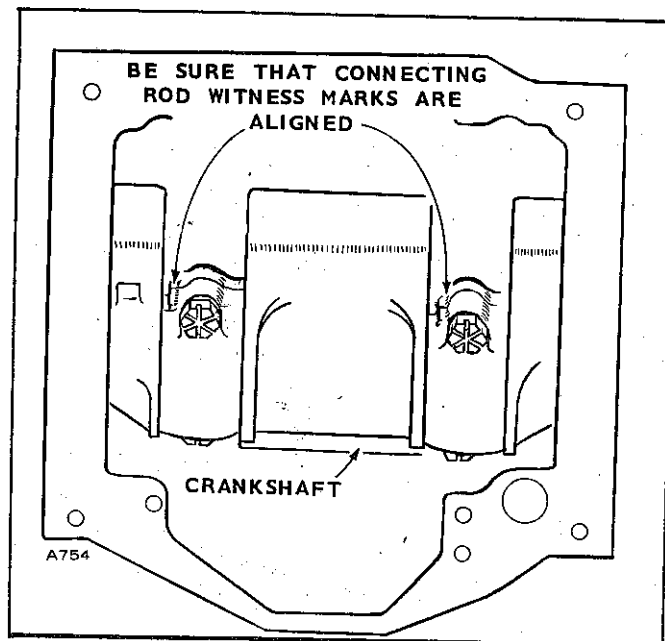

FIGURE 65. INSTALLING ROD CAP
5. Position each connecting rod on the crankshaft, oil the journal and install its rod cap with bearing half. When installing the rod cap, position so the raised witness mark on the forging matches the mark on the connecting rod (Fig. 65).